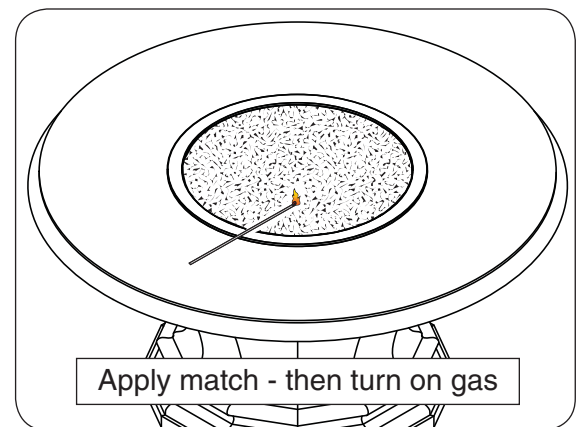

Fig. 29-1
3. Lay a lighted long-stem match on the surface of the decorative media near the burner (**do not hold the match in your hand**) or use a lighted long-necked butane lighter (Fig. 29-1).